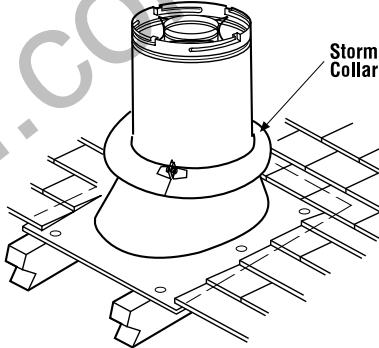

Figure 23
J. Install the storm collar - Install the storm collar, supplied with the flashing, over the vent/flashing joint. See **Figure 23**. Loosen the storm collar screw. Slide collar down until it meets the top of the flashing. Tighten the adjusting screw. Apply non-combustible caulk or mastic around the circumference of the joint to provide a water tight seal.